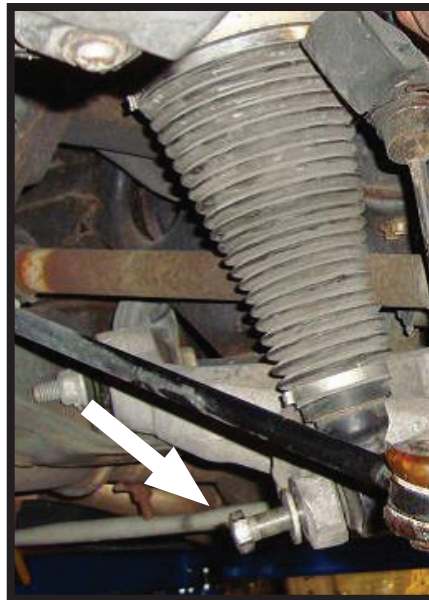

FIGURE 18
7. REMOVE THE LOWER AIR STRUT MOUNTING BOLT. (FIGURE 18)